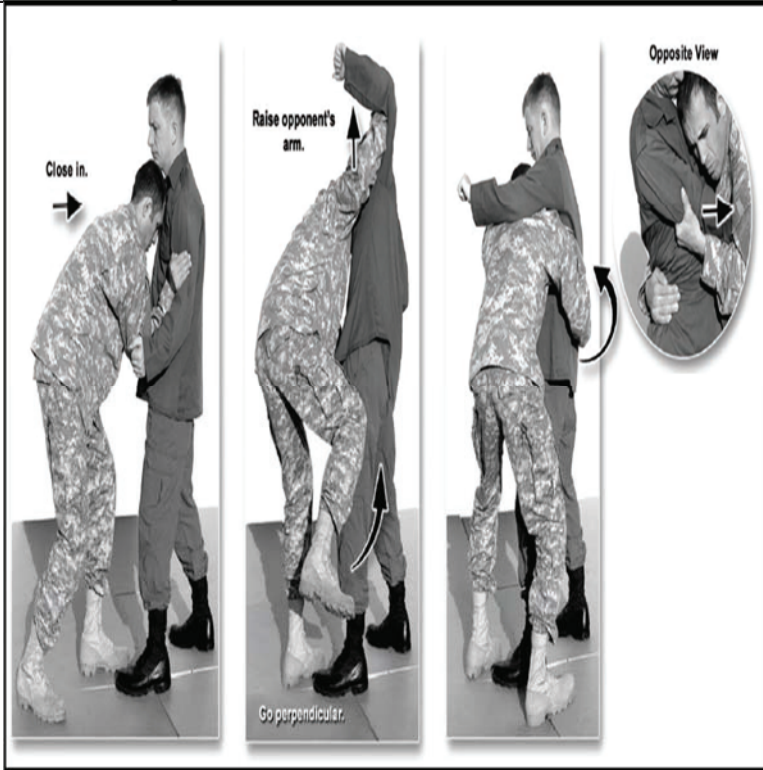

Figure 071-COM-0512-1. Modified Seatbelt Clinch.
- (1) Face your opponent, and assume the Fighting Stance just outside of kicking range.
- (2) Tuck your chin, and use your arms to cover your head while aggressively closing the distance.
- (3) Drive your head into your opponent's chest.
- (4) Move your cupped hands to your opponent's biceps.
- (5) Aggressively fight for one of the dominant clinch positions.
- b. Achieve the Modified Seatbelt Clinch. (Figure 071-COM-0512-1)